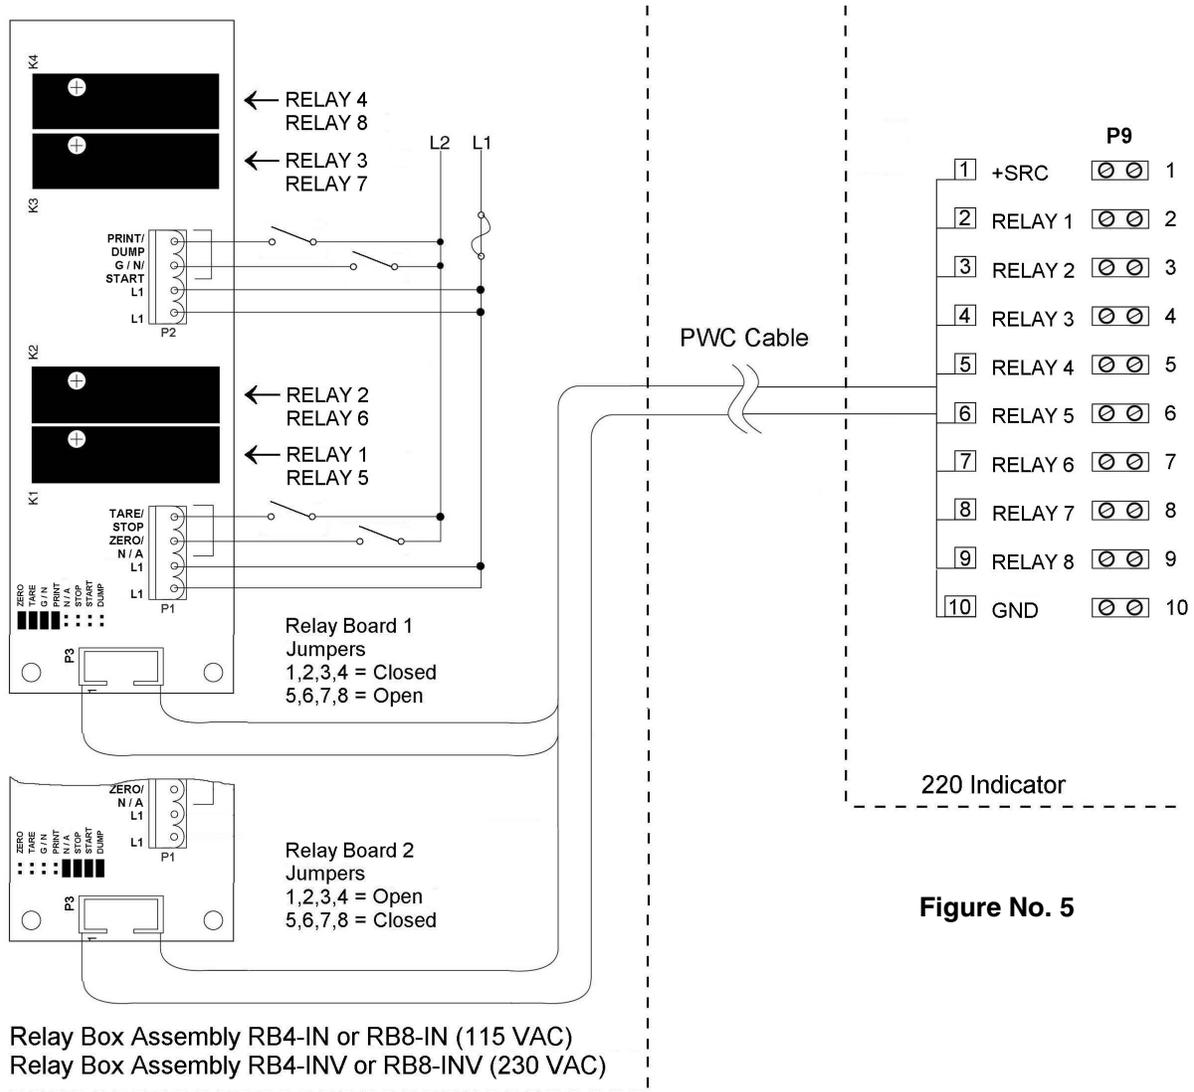
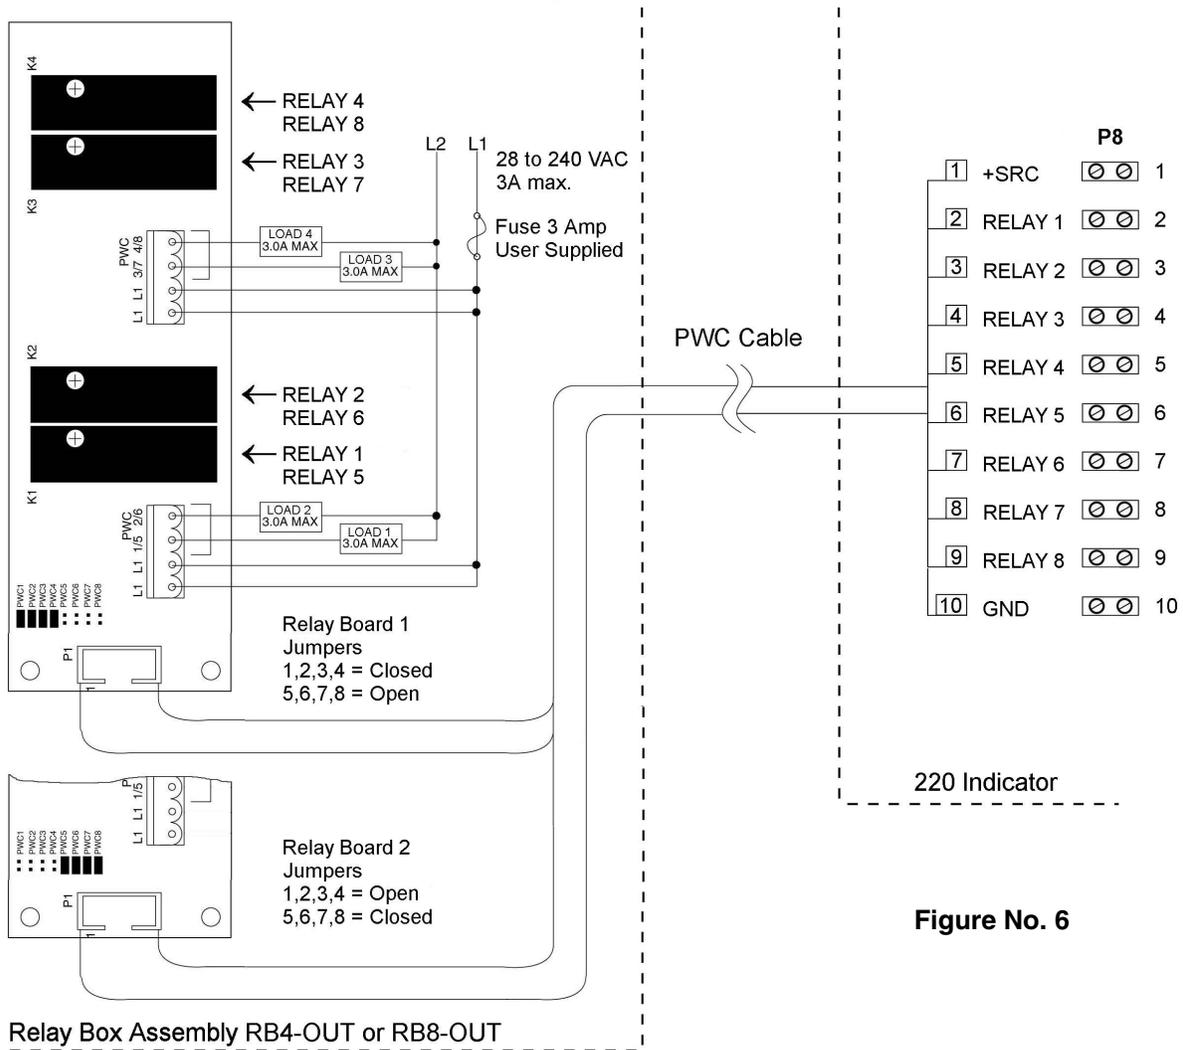
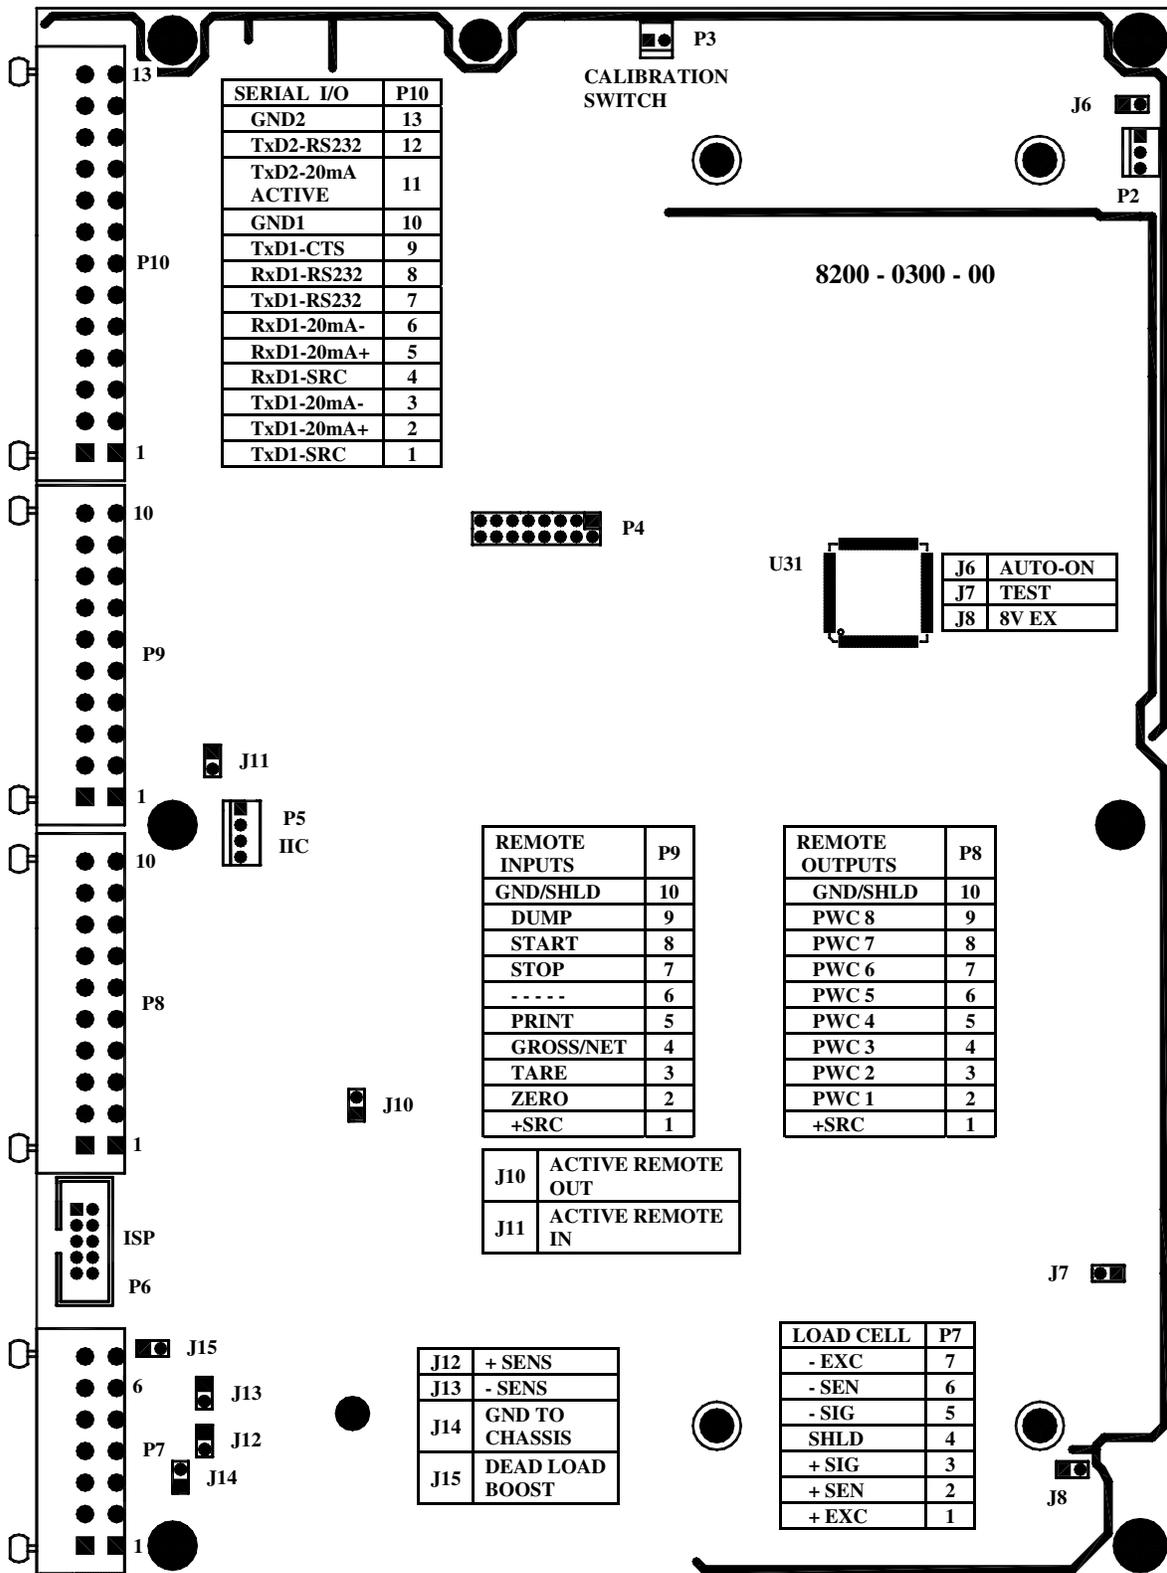

Figure No. 5
Figure No. 6
Figure No. 7
4. Connect each of the wires to the Serial I/O terminal block (P10) referring to Figure No. 7 for terminal block locations.
Included with the I/O are 7 programmable inputs that may be used to remotely (up to 100 feet) initiate various functions within the indicator. These inputs are accessed via a terminal block (P9) on the back of the PC board (see Figure No. 7). The 7 inputs are defined as follows:
The AC Input Relay Board(s) are mounted in an external junction box for use with the 220 Indicator. The RB4-IN (115 VAC) or RB4-INV (230 VAC) contain one board and supports 4 inputs (jumper selectable). The RB8-IN (115 VAC) or RB8-INV (230 VAC) contain two boards and supports 7 inputs. The relay board used in the 115 VAC version is Cardinal p/n 8200-C324-0A. The 230 VAC version uses relay board Cardinal p/n 8200-C324-1A. Connect the devices as shown in Figure No. 5.
The AC Output Relay Board(s) are mounted in an external junction box for use with the 220 Indicator. The RB4-OUT contains one board and supports 4 outputs (jumper selectable). The RB8-OUT contains two boards and supports 8 outputs. The relay board used in both is (Cardinal p/n 8539-C062-0A). Connect the devices to be controlled as shown in Figure No. 6.
Refer to Figure No. 5 for the AC Input Relay board, Figure No. 6 for the AC Output Relay board and Figure No. 7 for the Main PCB.
DFC operation can be accomplished using one relay board. By setting the relay board jumpers on PWC1, PWC2, PWC3 and PWC8 (see Figure No. 6), PWC1 will operate relay 1 at the Fill preset, PWC2 will operate relay 2 at the SLOW preset and DUMP will operate relay 4 with the dump command (see the tables above). Note, that PWC3 is not used.
Main PCB Jumpers (See Figure No. 7)
The AUTO-ON jumper J6, when connected, will cause the indicator to power on automatically whenever power is applied to the power input connector. If power is lost momentarily and then reapplied, the indicator will turn on without pressing the **ON** key. See Figure No. 7 for jumper location.
The TEST jumper J7, when connected, will turn the backlight on, disregarding the *LIGHT ON*= setting (refer to Setup Review for explanation of *LIGHT ON*). See Figure No. 7 for jumper location.
The 8V EX jumper J8, when connected, allows the 220 indicator to supply 8 VDC excitation voltage when a remote (external) 12 VDC battery is used to power the indicator. To operate from the 12 VDC battery, the load cell excitation voltage **MUST** be set to 8 VDC (*J8 closed*). Operating with the load cell excitation voltage set to 12 VDC will result in an unstable weight display. See Figure No. 7 for jumper location.
The Active Remote Out jumper J10, when connected, allows the 220 indicator to supply (source) 5 VDC to a solid-state relay or other load of 200 ohms or greater. To operate from the 5 VDC source, the positive connection from the relays must be connected to P8 pins 2 through 9 and the negative wire from the relays to P8 pin 10 (GND/SHLD). See Figure No. 7 for jumper and connector P7 location.
The Active Remote In jumper J11, when connected, allows the 220 indicator to supply (source) 5 VDC to a remote input circuit. Connecting P9 pins 1 through 9 to P9 pin 10 (GND) through a switch will cause the selected action. See Figure No. 7 for jumper and connector P9 location.
If the sense leads are NOT used, you must install plug-in jumpers at J12 and J13 adjacent to the terminal block. These jumpers attach the sense leads to the excitation leads. If sense leads **ARE** used (as in motor truck scales), these plug-in jumpers should be positioned on one plug-in pin only or removed and stored for later use. Refer to Figure No. 7 for the location of the jumpers.
This jumper when installed connects the analog circuit ground to the indicator chassis ground. Refer to Figure No. 7 for the location of the jumper.
For very low dead loads (less than 10% of the combined load cell capacity) connect the dead load boost jumper J15 on the printed circuit board. Refer to Figure No. 7 for the location of the jumper.